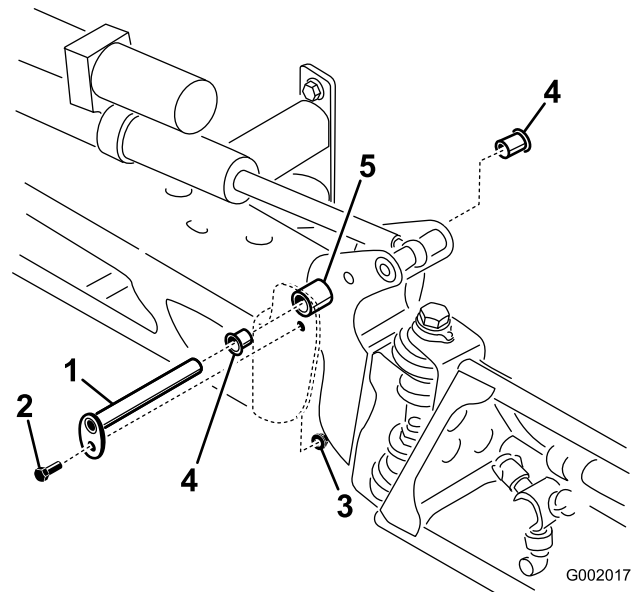

Figure 21
3. With the weight of the boom supported, remove the bolt and the nut securing the pivot pin to the boom assembly (Figure 21).
6. Remove and inspect the nylon bushings from the front and back sides of the pivot bracket (Figure 21).
8. Install the boom and pivot bracket assembly into the center frame, aligning the openings (Figure 21).